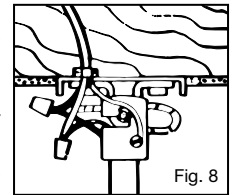

Fig. 8
- A.** Connect black electrical supply lead to the black motor lead and the black with white stripe motor lead (See note). Connect the white electrical supply lead to the white motor lead. Connect ground wire to green screw on side of hanger bracket. See Figure 8.